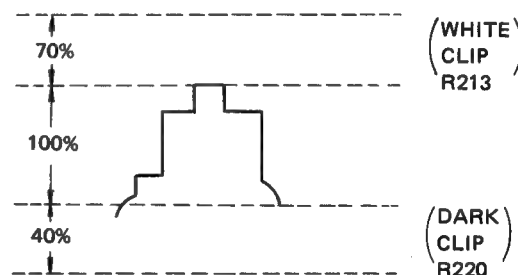

Figure 101.
1. Put the unit in RECORD mode, and apply +B voltage to pin ①③ of I201.
3. Observe the output of TP-202 on oscilloscope, and adjust R213 (white clip control) and R220 (dark clip control) so that the respective waveforms will be as shown. (Fig. 101)
4. Stop to apply +B voltage to pin ①③ of I201.